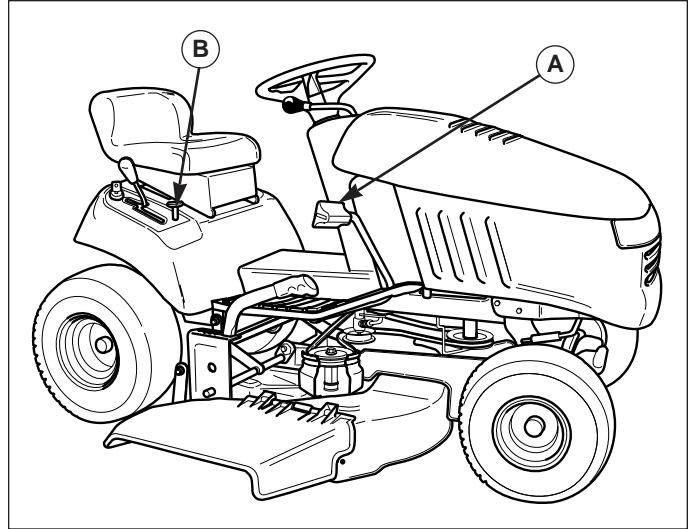

Figure 2. Clutch/Brake Pedal Operation
1. Depressing the clutch/brake pedal (A, Figure 2) disengages the transmission drive. Fully depressing the pedal applies the rider brake.
2. Parking brake is applied by pulling up on the parking brake control knob (B, Figure 2) with the clutch/brake pedal fully depressed.
1. Depressing the clutch/brake pedal (A, Figure 2) disengages the transmission drive belt and allows the gear lever to be shifted. Fully depressing the clutch/brake pedal from applies the tractor brake.